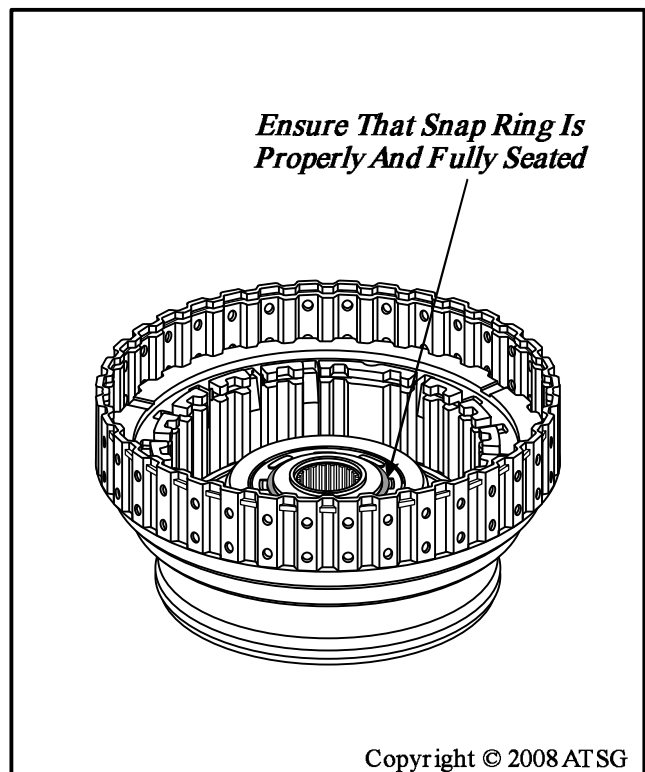

Figure 138
12. Release the compression, remove compression tools and ensure that snap ring is properly and fully seated, as shown in Figure 138.